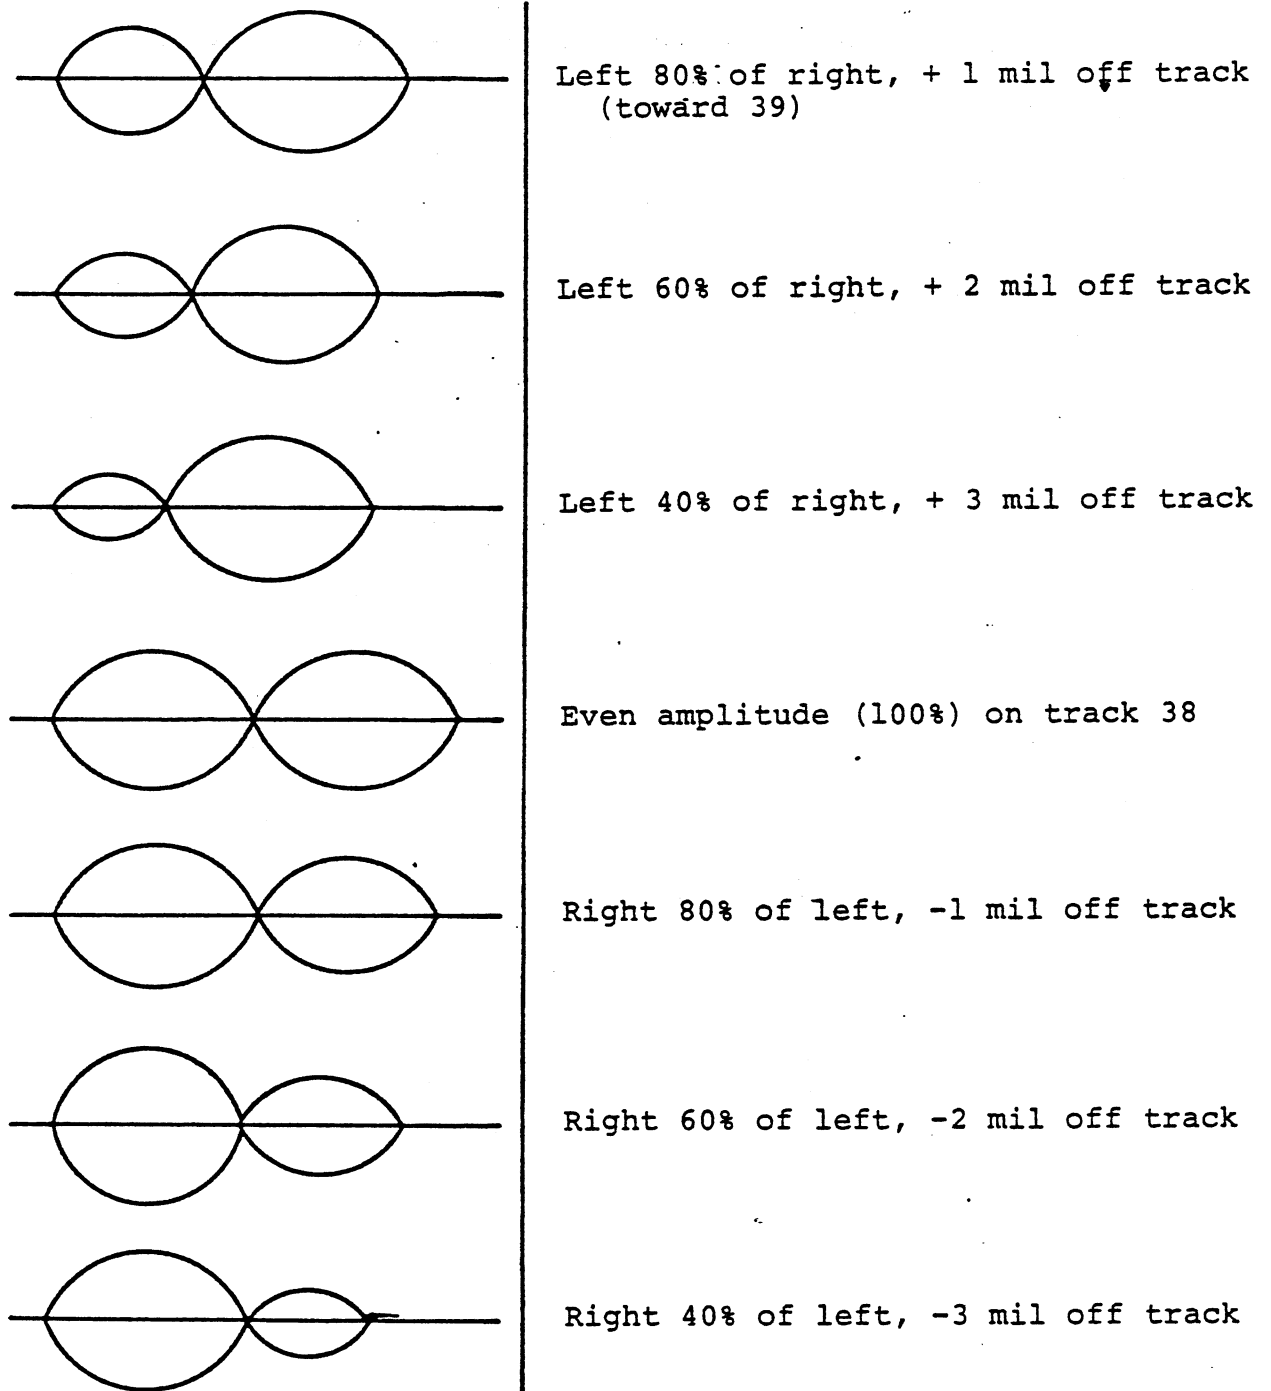

Figure 4-11. R/W Head Radial Alignment
- h. Rotate the stepper motor to radially move the head in or out. If the left lobe is less than 80% of the right, turn the stepper motor clockwise. If the right lobe is less than 80% of the left lobe, turn the stepper motor counterclockwise. See Figure 4-11.